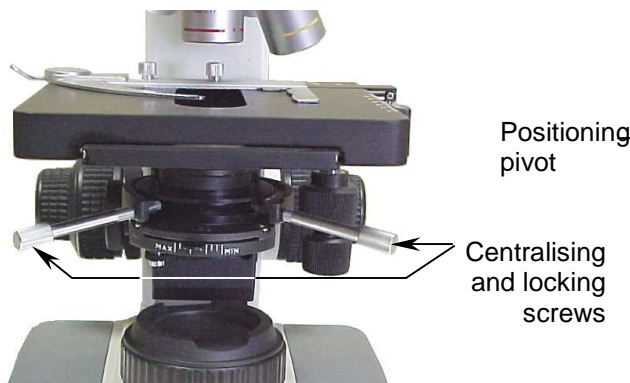

Fig. 2
- c. Unscrew the locking screws, that also center the condenser (Fig. 2).
4. Center the condenser using the locking and centering screws (Fig. 2). As a consequence, the field diaphragm will be centred.